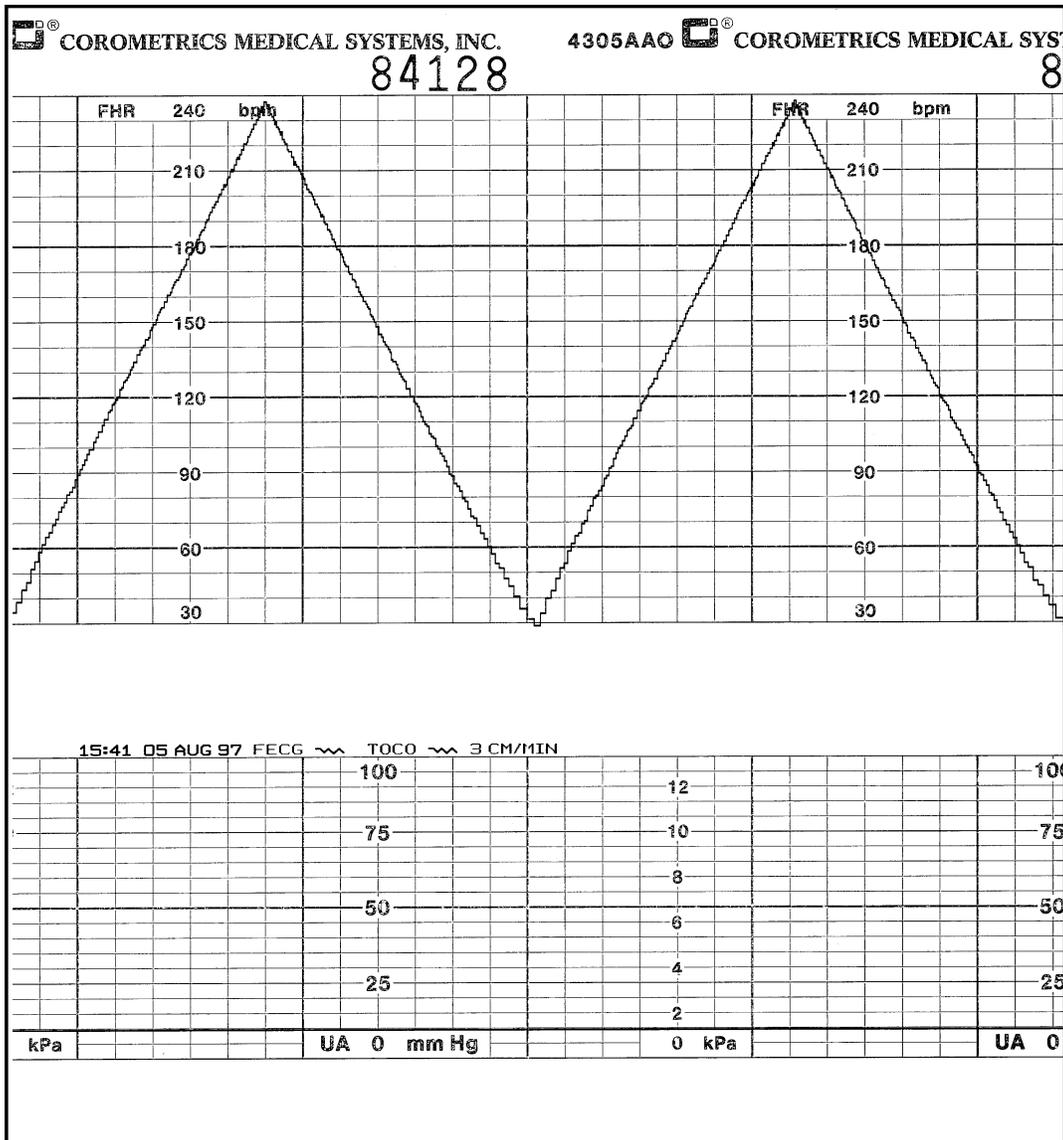

Figure 6-4. FECCG Ramp
10. Set the simulator's **ECG Rate** switch to the RAMP setting. Verify that the monitor's FHR1 value counts between approximately 30 and 240 BPM and that the recorder prints a ramp between the same values. (Refer to Figure 6-4.)